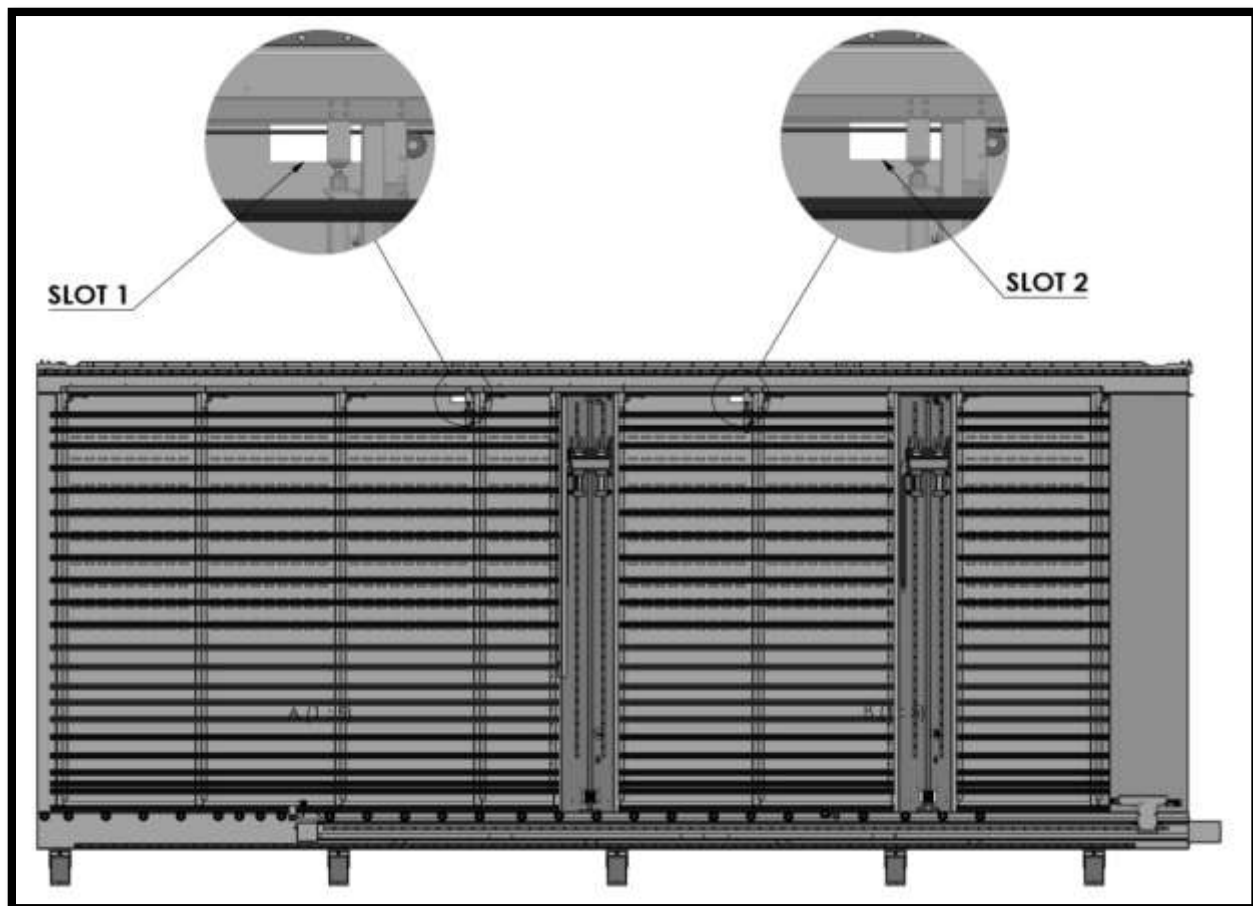

Figure 2.1 – Chassis Lift Slots
- Connect the rope to the specified rectangular spaces in the upper equilibrium points of the machine and lift the chassis using the crane or forklift as shown in the figure below. (figure 2.1) The machine comes out of the factory with its ropes attached, then the ropes must be reconnected when the machine is to be moved. To connect the ropes on the chassis; The frame front piston lift mechanism on the front side of the frame and the cable channel in the chassis rear comb, some of the transport plates must be removed during transport.